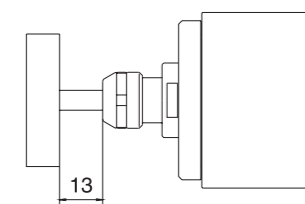

Fig.19
- Do not exceed 13mm overhang for mounted grindstones. In case overhang must exceed 13mm reduce the motor speed in accordance with Fig.19.